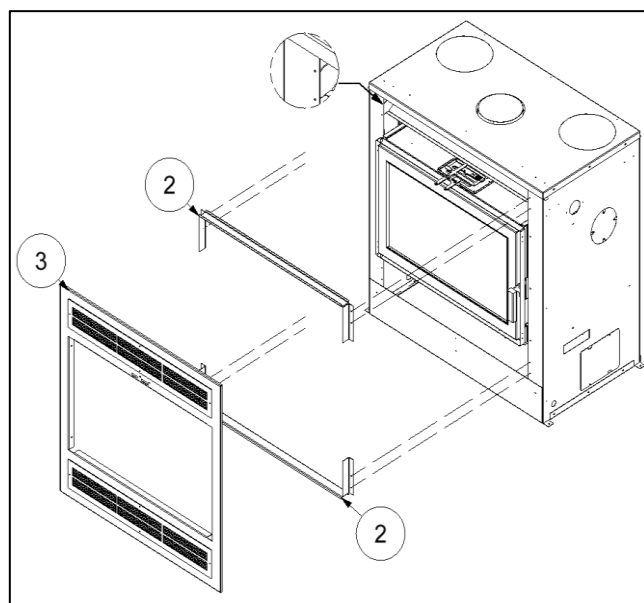

Figure 3-10: Top and Bottom Front Support Bracket Installation for Traditional Surround
2. Align the bottom front support bracket (Item 2) to the intake opening and fasten it in place (Figure 3-10).
3. Align the top front support bracket (Item 2) to the outtake opening and fasten it in place (Figure 3-10).